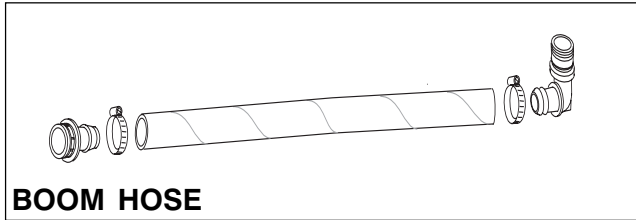

FIG. 13
14. Assemble Supply Hose which consists of straight Hose Barb, 90° Hose Barb, 50" Supply Hose and two (2) Hose Clamps (See FIG. 13)